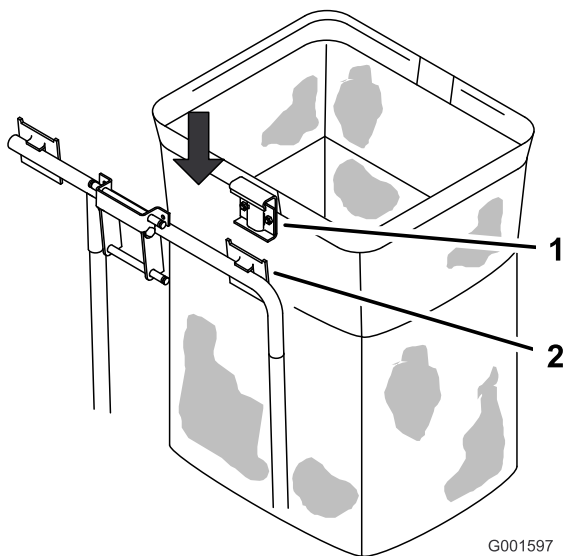

Figure 22
4. Install the bags by sliding the bag frame hooks onto the retaining brackets (Figure 22).